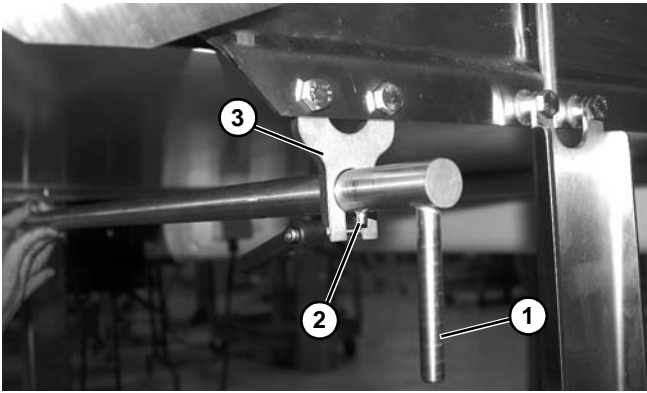

Figure 40
2. Install scraper shaft with handle (**Figure 40, item 1**) facing downward so pins (**Figure 40, item 2**) go through slotted area of both scraper adjust plate and scraper mount plate (**Figure 40, item 3**).